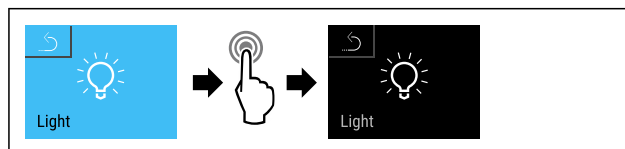

Fig. 95
- ▶ Complete steps (see Fig. 95).